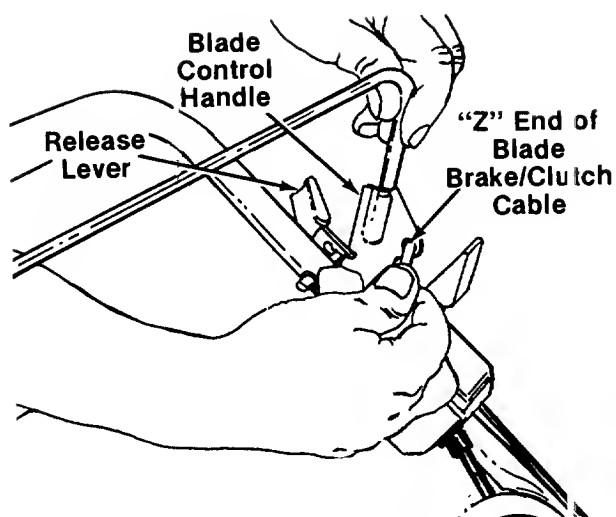

FIGURE 6.
11. Hook the "Z" end of the blade brake/clutch cable into the hole in the blade brake/clutch control handle. See figure 6. If additional slack is needed in order to hook the cable into the handle, proceed as follows.
- b. Push release lever (see figure 6), then squeeze blade control handle against upper handle.